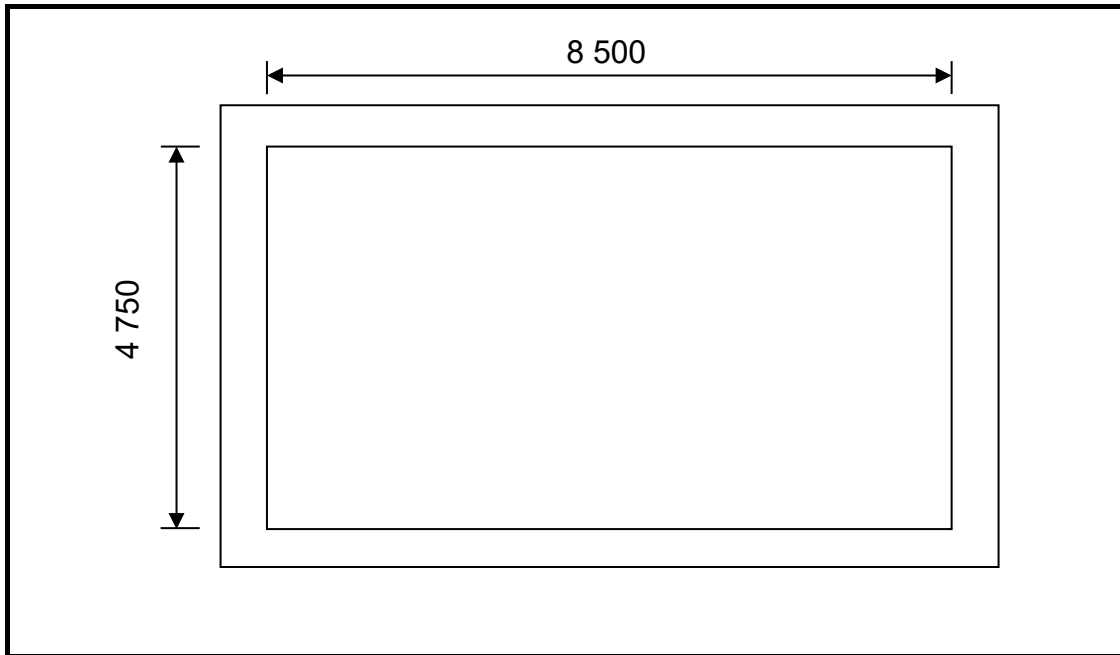

FIGURE 6.9
- 6.9 FIGURE 6.9 shows the foundation strips with inside measurements for a storeroom. The foundation is 700 mm wide and 250 mm thick.